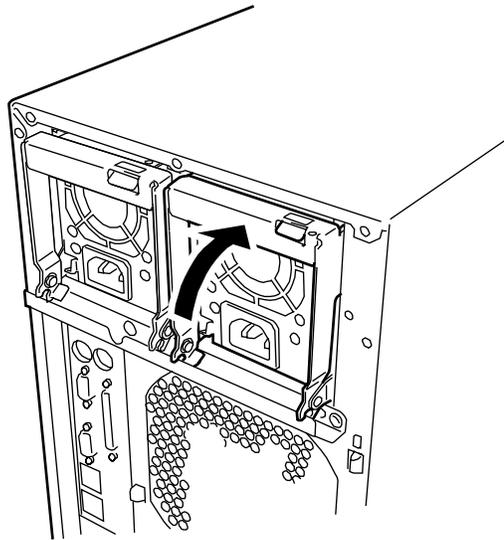

Figure 4-30. Securing the Power Supply
6. Push the power supply handle toward the power supply until the locking tab snaps into place. See Figure 4-30.